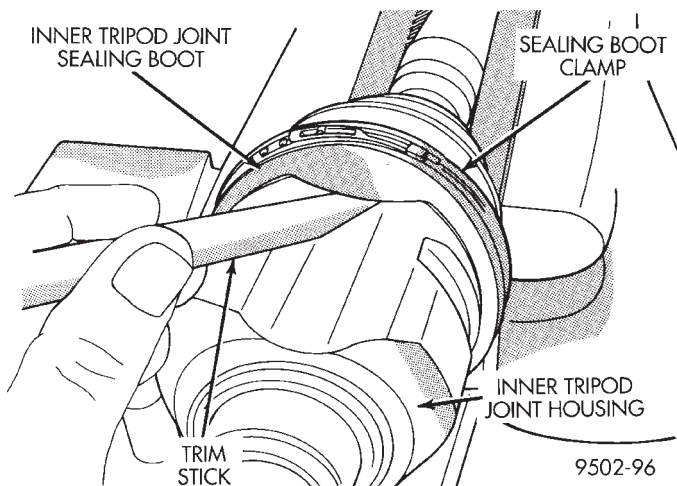

Fig. 37 Trim Stick Inserted for Venting Tripod Joint
(9) Insert a trim stick between the tripod joint and the sealing boot to vent inner tripod joint assembly (Fig. 37). **When inserting trim stick between tripod housing and sealing boot ensure trim stick is held flat and firmly against the tripod housing. If this is not done damage to the sealing boot can occur.** If inner tripod joint has a Hytrel (hard plastic) sealing boot, be sure trim stick is inserted between soft rubber insert and tripod housing not the hard plastic sealing boot and soft rubber insert.
(10) With trim stick inserted between sealing boot and tripod joint housing, position the interconnecting shaft so it is at the center of its travel in the tripod joint housing. Remove the trim stick from between